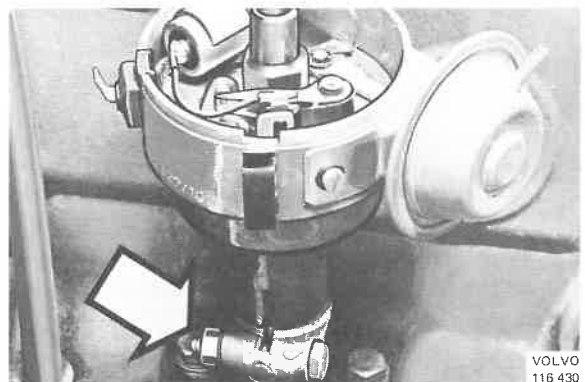

Fig. 34-8. Removing distributor
2. Disconnect the low-voltage cable at the distributor. Remove the vacuum hose from the vacuum governor. Lift off the distributor rotor and remove the condensate trap. Release the retaining screw and pull up the distributor, see Fig. 34-8.